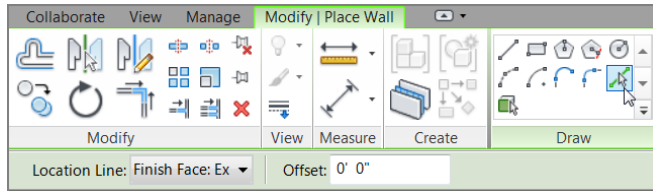

FIGURE 2.11: The Pick Lines icon lets you add a wall by using an offset from another object.
27. On the Draw panel, click the Pick Lines icon, as shown in Figure 2.11.